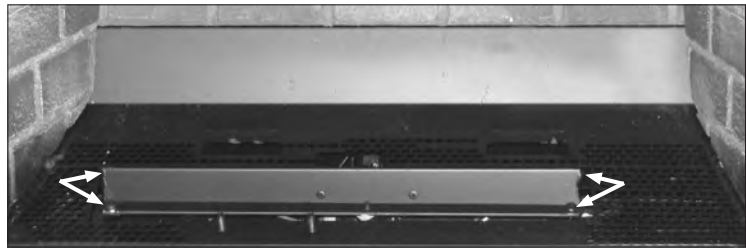
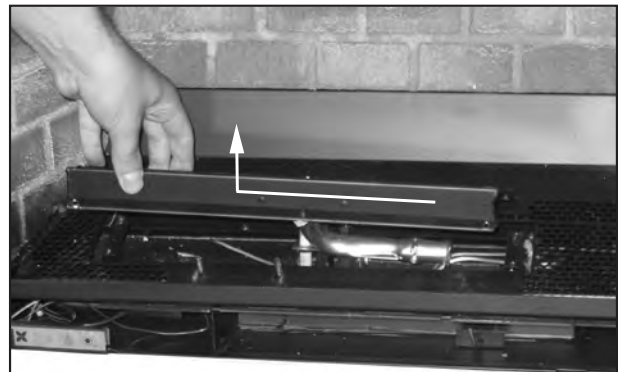

Figure 25: Unfastening Burner.
Figure 26: Burner Removal.
4. Using a T-20 screwdriver, remove the four (4) screws that hold the burner in place (pointed out in Figure 25). Slide the burner to the left (see Figure 26), then up and out of the firebox.